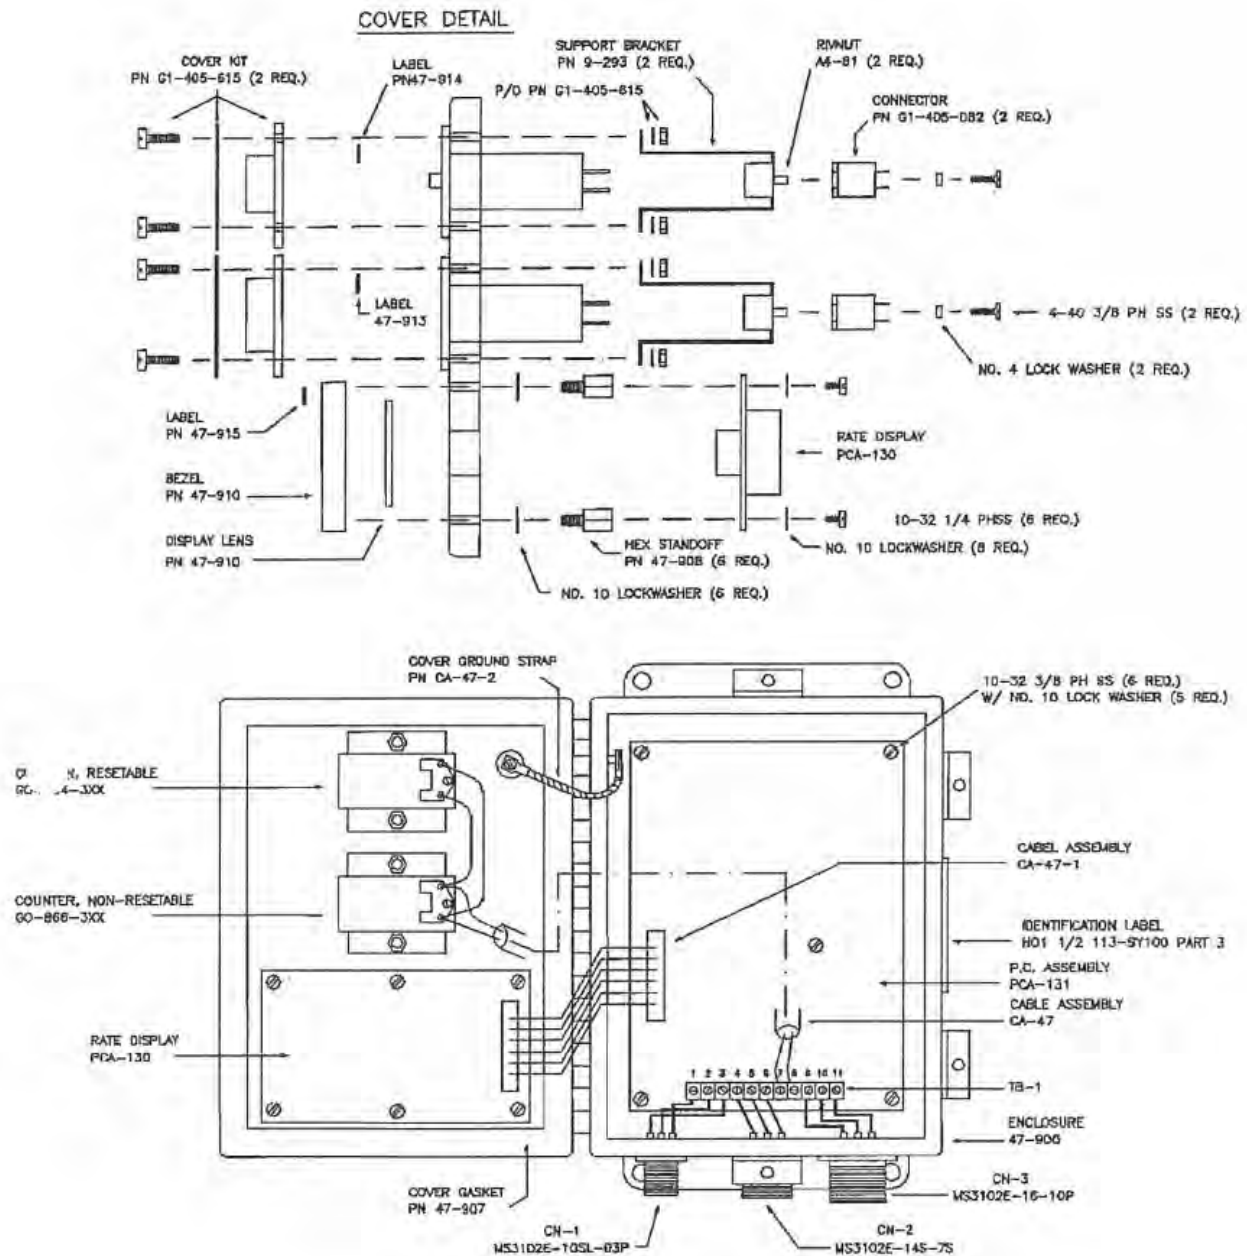

FIGURE 5-3 47-SY100 ELECTRONICS UNIT
3. Connect the digital multimeter to TPDC (negative) and TPI (positive). A voltage of +5.0 volts \pm 0.5 volts should be measured. Absence of this voltage indicates failure of the PCA-131 printed circuit assembly. Refer to figure 5-3 for removal.